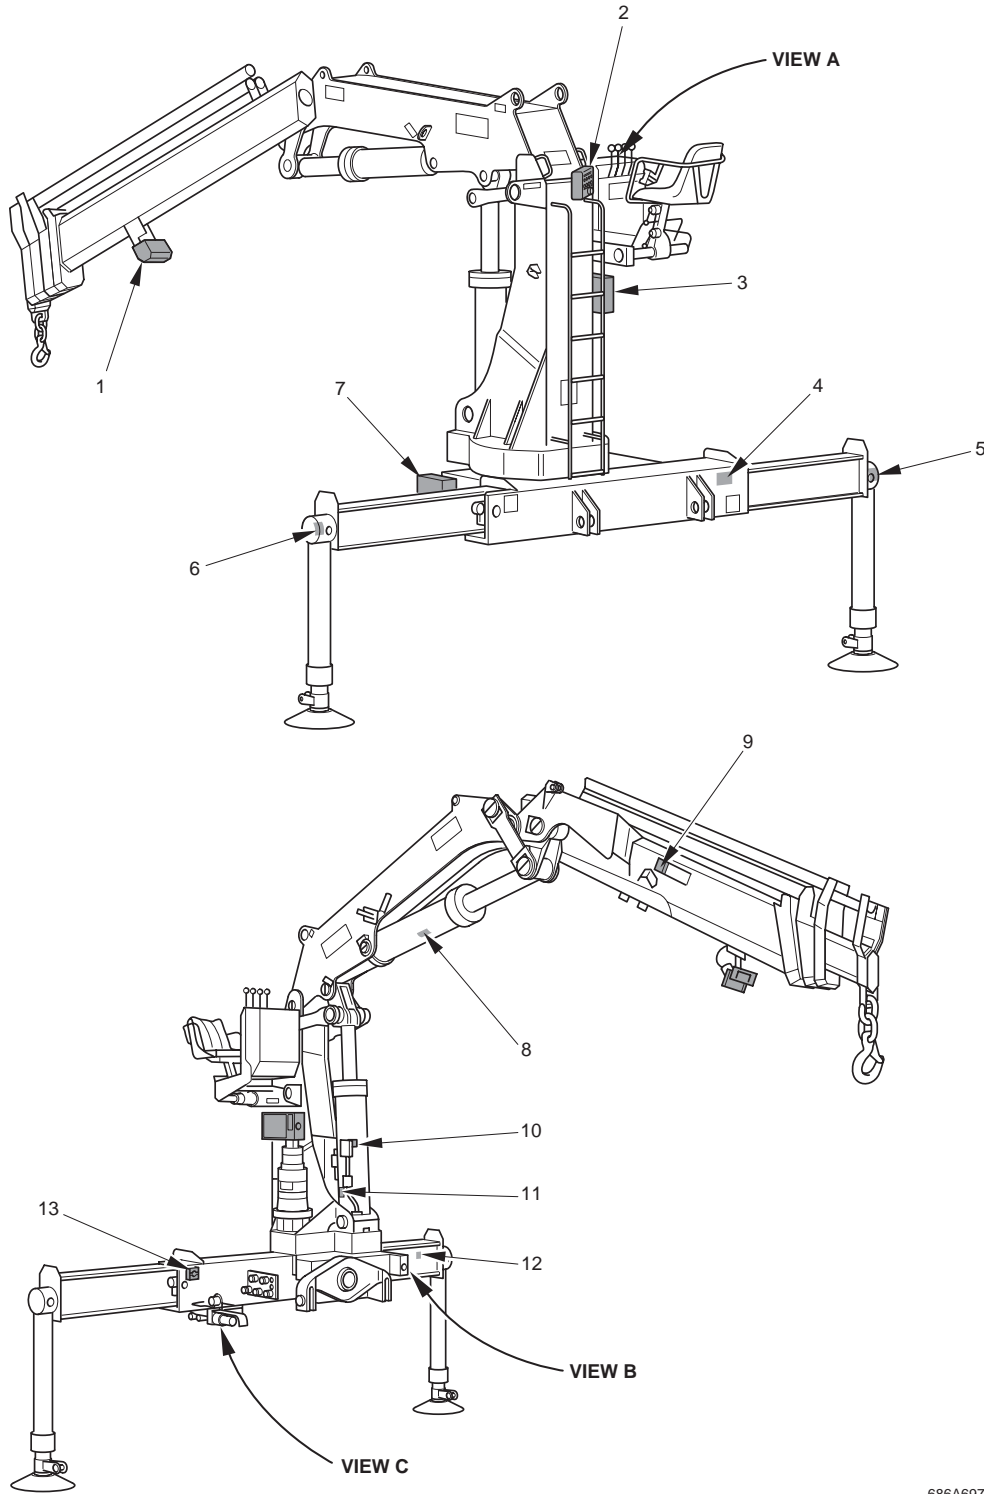

Figure 1 CRANE ELECTRICAL COMPONENT LOCATIONS
The electrical components of the crane are shown in Figures 1 thru 4. A description of each item is provided in the accompanying Tables 1 thru 4.
**Table 1 for Figure 1**